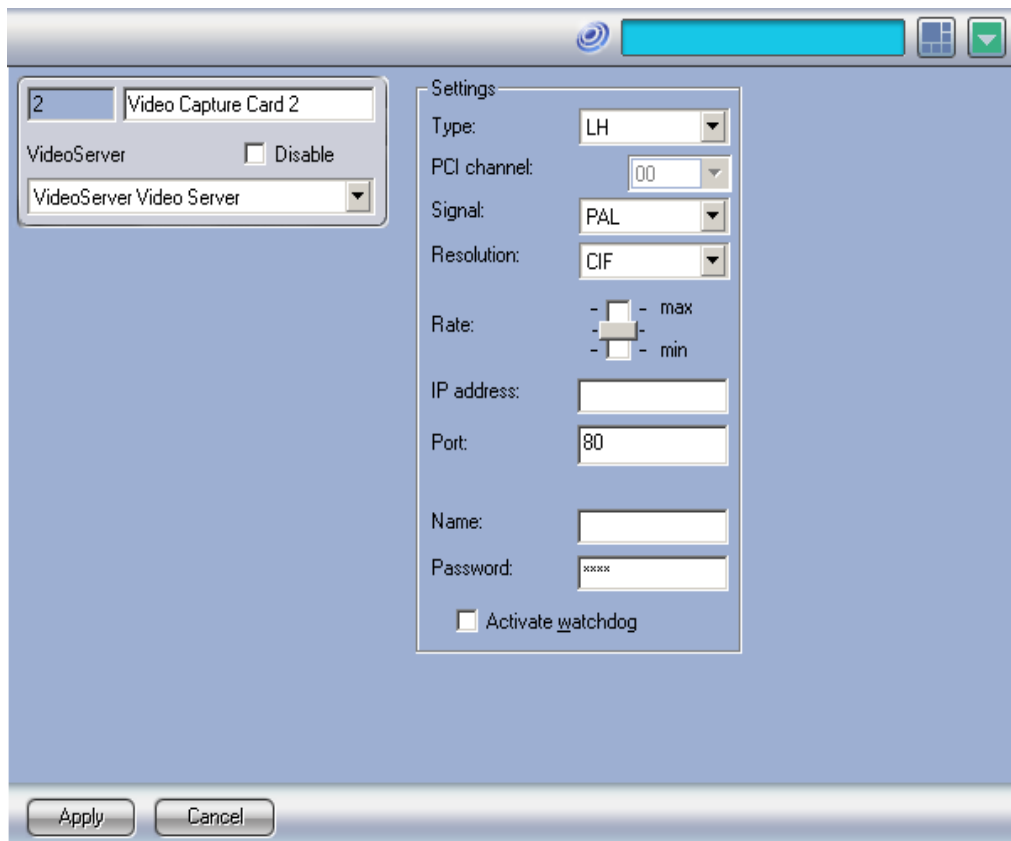

Figure 7.2-11 Creating a Video Capture Card object
2. Create a new **Video Capture Card** under the **Computer** object (in the **Hardware** tab) (Figure 7.2-11), by specifying the **LinuxHub** type and the IP-address of the required LH (see *Network identification of the Linux Server (LinuxHub)* section).